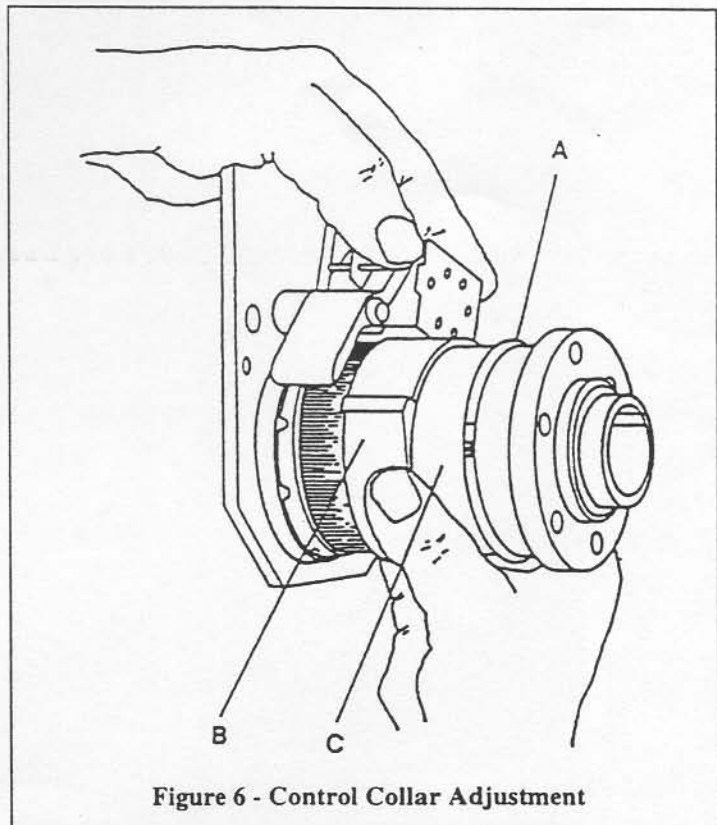

Figure 6 - Control Collar Adjustment
6.7 CONTROL COLLAR ADJUSTMENT (See Figure 6)